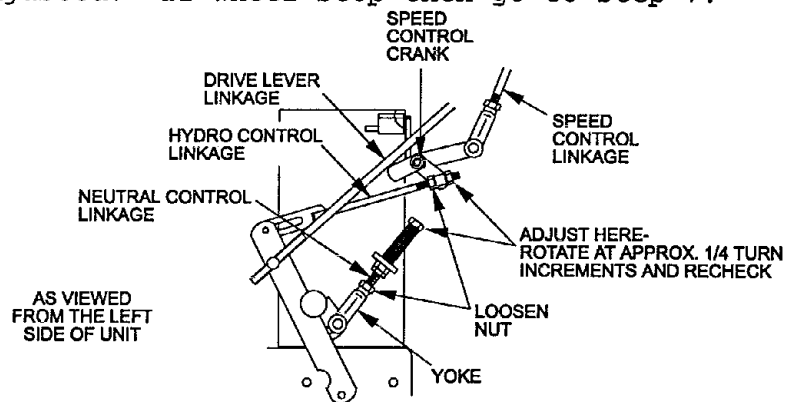

FIG. 15
1. Move the speed control lever (located on the console) to the full forward position and check the orientation of the tabs on the ends of the speed control crank (fig. 15). These tabs should be pointing straight down at the 6 o'clock position or slightly forward. Adjust the threaded yoke at the bottom of the speed control link until the tabs are positioned correctly.
4. Loosen the nut against the neutral control linkage yoke as shown in Figure 15.
2. Loosen the front nut on **left** hydro control linkage as shown in Figure 15. Turn the rear control linkage adjusting nut counter-clockwise until wheel rotates forward. Turn the rear nut of left control linkage clockwise 1/4 of a turn at a time, stopping to move the speed control forward and back to neutral, until left wheel stops rotating forward.